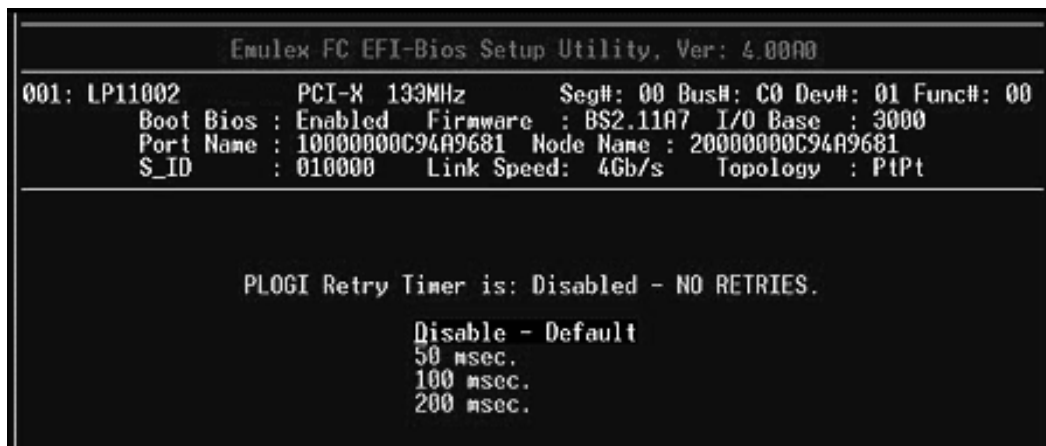

Figure 32: PLOGI Retry Timer Setup screen
1. On the Adapter Configuration menu, select **3. PLOGI Retry Timer** and press **<Enter>**. The screen shown in Figure 32 is displayed.